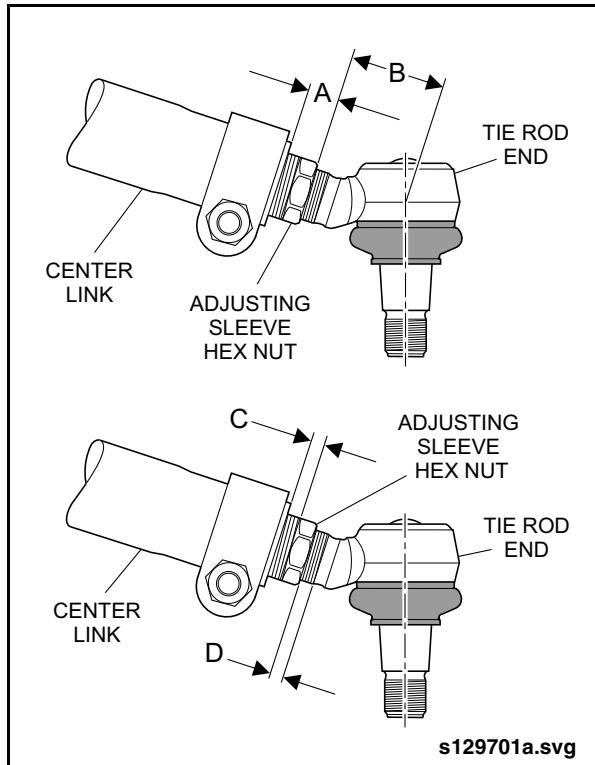

Fig. 1-19: Tie Rod End Adjustment
1. Thread adjusting sleeve into center link until the end of the hex head on the sleeve is  $0.708 \pm 0.275$  in. ( $18 \pm 7$  mm) from the end of the center link. Refer to dimension "A". See "Fig. 1-19: Tie Rod End Adjustment" on page 20.